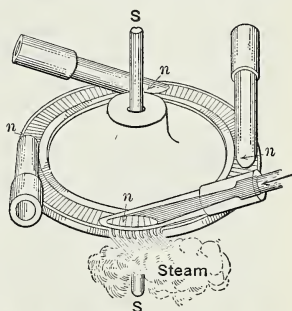

Fig. 136. A steam turbine. Steam from the nozzle *n* strikes the blades on the wheel.
**Steam turbine.** Another method of applying the energy of compressed steam is found in the steam turbine. This has the advantage that it generates a rotary motion directly. Steam from jets (Fig. 136) is made to strike small buckets on the rim of a wheel. The energy of the expanding steam forces this wheel to rotate and gives a source of power. Many of the large power units used in modern electric plants use steam turbines.